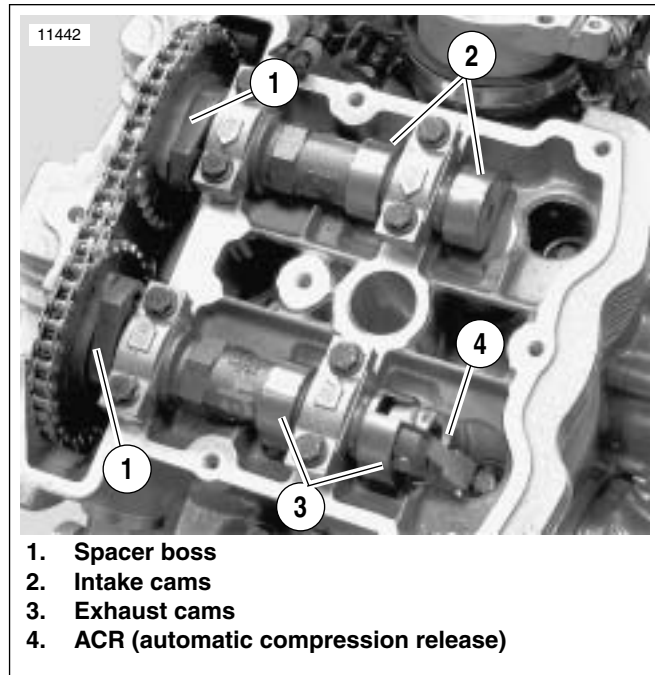

Figure 3-30. Rear Cylinder Cams
- The rear cylinder cams are identified by the spacer boss location on the inside of the cam sprockets. The exhaust cam is the cam with the ACR (automatic compression release) on the end of the cam shaft. See Figure 3-30.